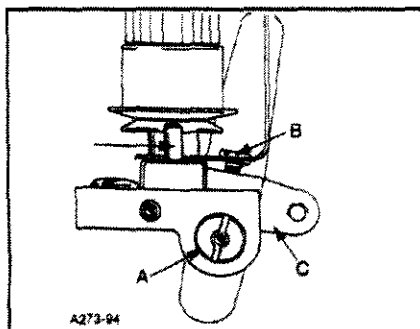

FIG. 18
The thread tension release is set correctly when it begins to function at the point when the upper feed roller begins to rise. When adjustment is necessary, loosen screw (B, Fig. 18) in lift lever (C). Facing the tension release shaft (A) from the right end of the machine, insert screwdriver in slot in shaft (A). Turn the screwdriver clockwise to raise pins (D) or counterclockwise to lower pins. Retighten screw (B).